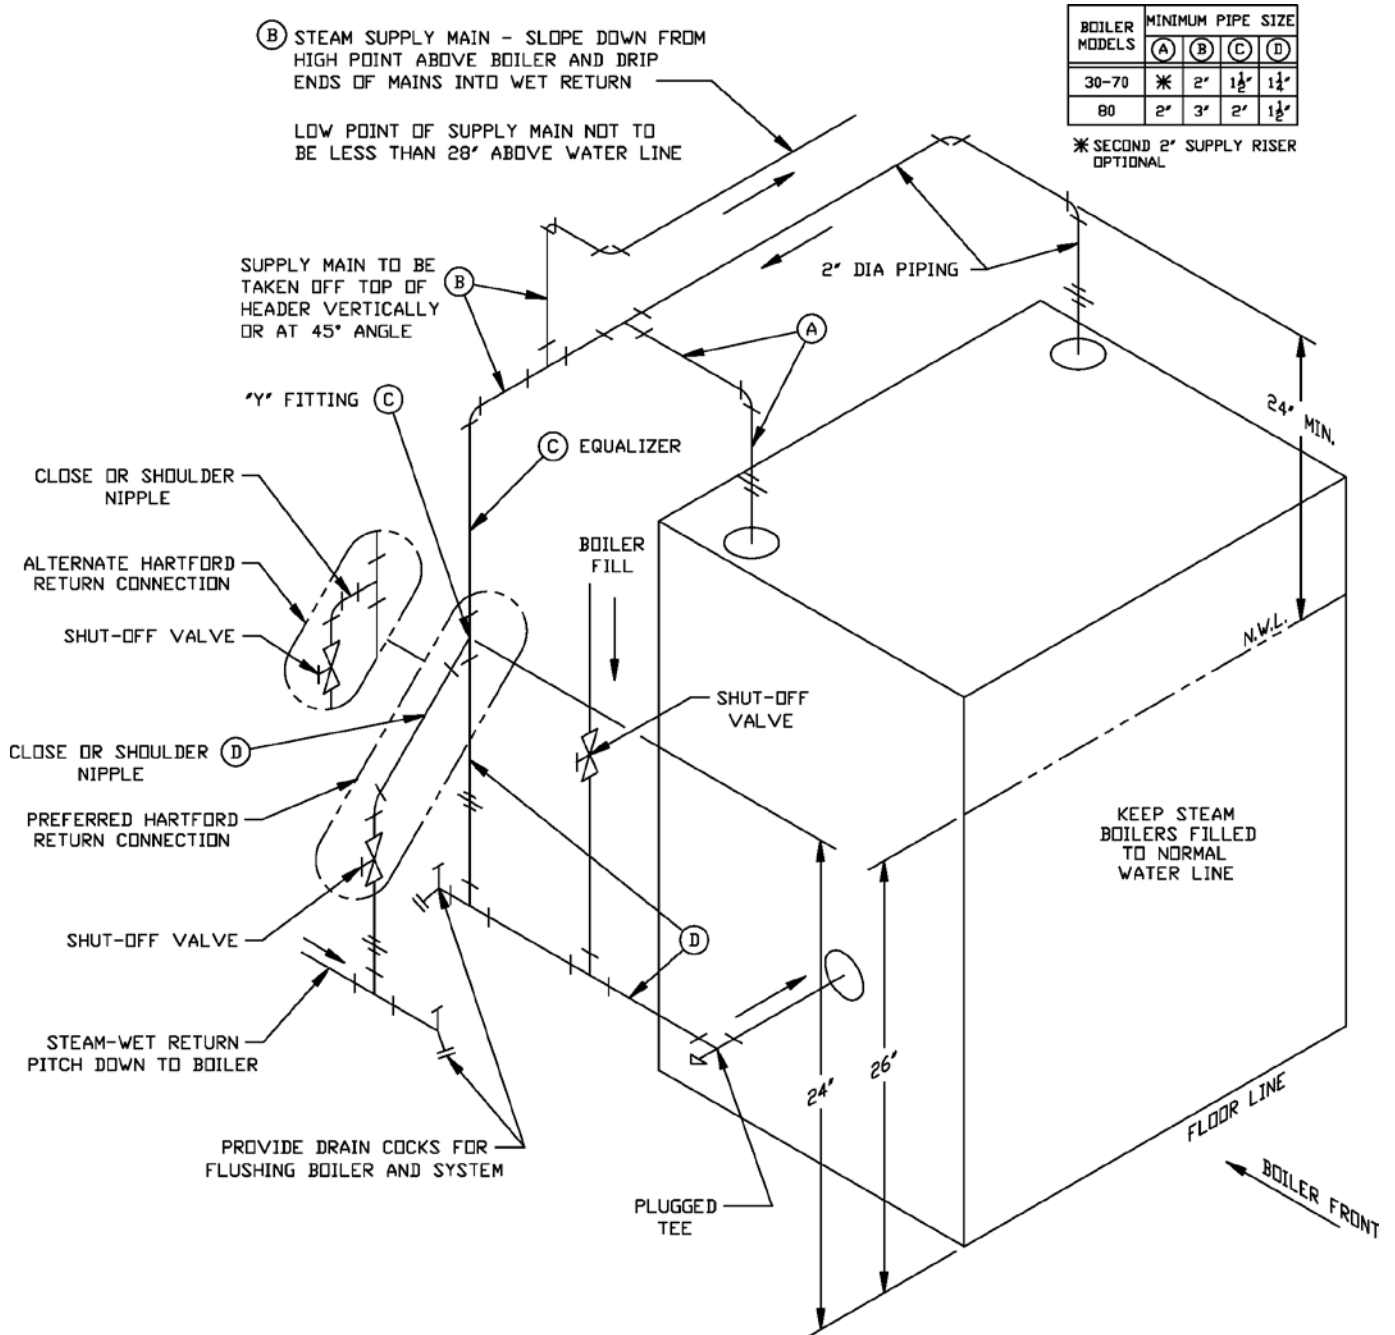

Figure 6: Recommended Boiler Piping for Gravity Return
F. Connect system supply and return piping to boiler. See Figure 6. Also consult Residential Hydronic Heating Installation and Design I=B=R Guide. Maintain minimum 1/2 inch clearance from hot water piping to combustible materials.